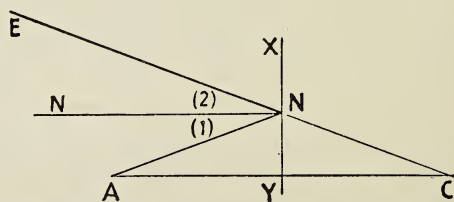

Fig. 313. Diagram showing how an image results from the reflection of light from a flat surface.
How the reflection of light produces images. Whenever we look into a plane mirror, or a mirror with a flat surface, we see an image of our face, because a ray of light is reflected from every point of the image back to our eyes. The image is exactly the same size as our face, and seems to be as far behind the mirror as we are in front of it. To understand why the image seems to be back of the mirror, let us examine the drawing in Figure 313. XY in this drawing represents a mirror, A represents a point on our face from which a ray of light strikes the mirror at N , (1) is the angle of incidence, (2) is the angle of reflection, and